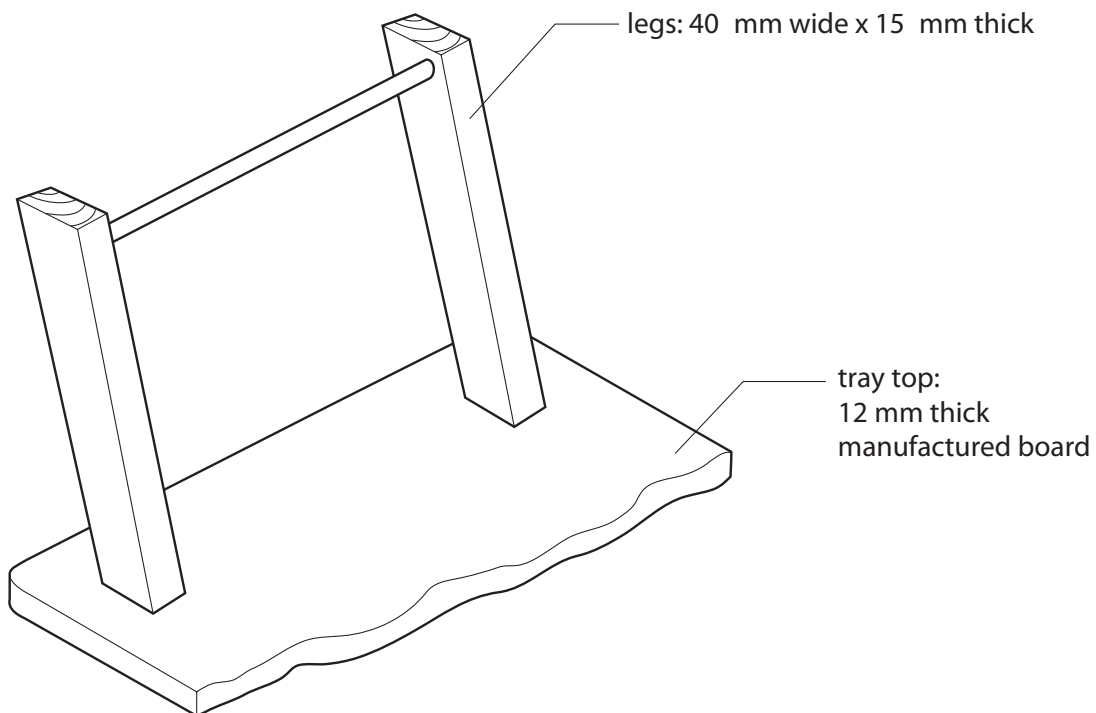

Fig. 4
- (b) Fig. 4 shows the underside of the tray.
Add sketches and notes to Fig. 4 to show how the legs could be made to fold up against the tray top for ease of storage.